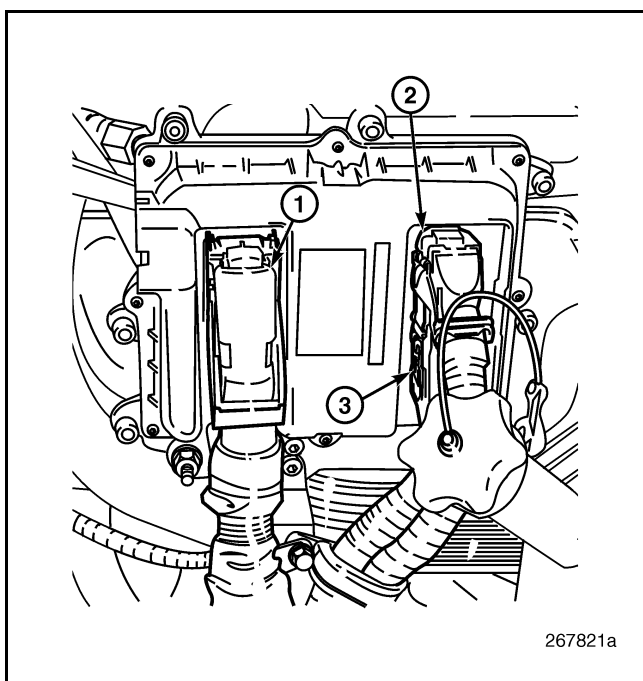

Figure 437 — EECU Connectors
8. Connect the wiring harness to the EECU (Figure 437).